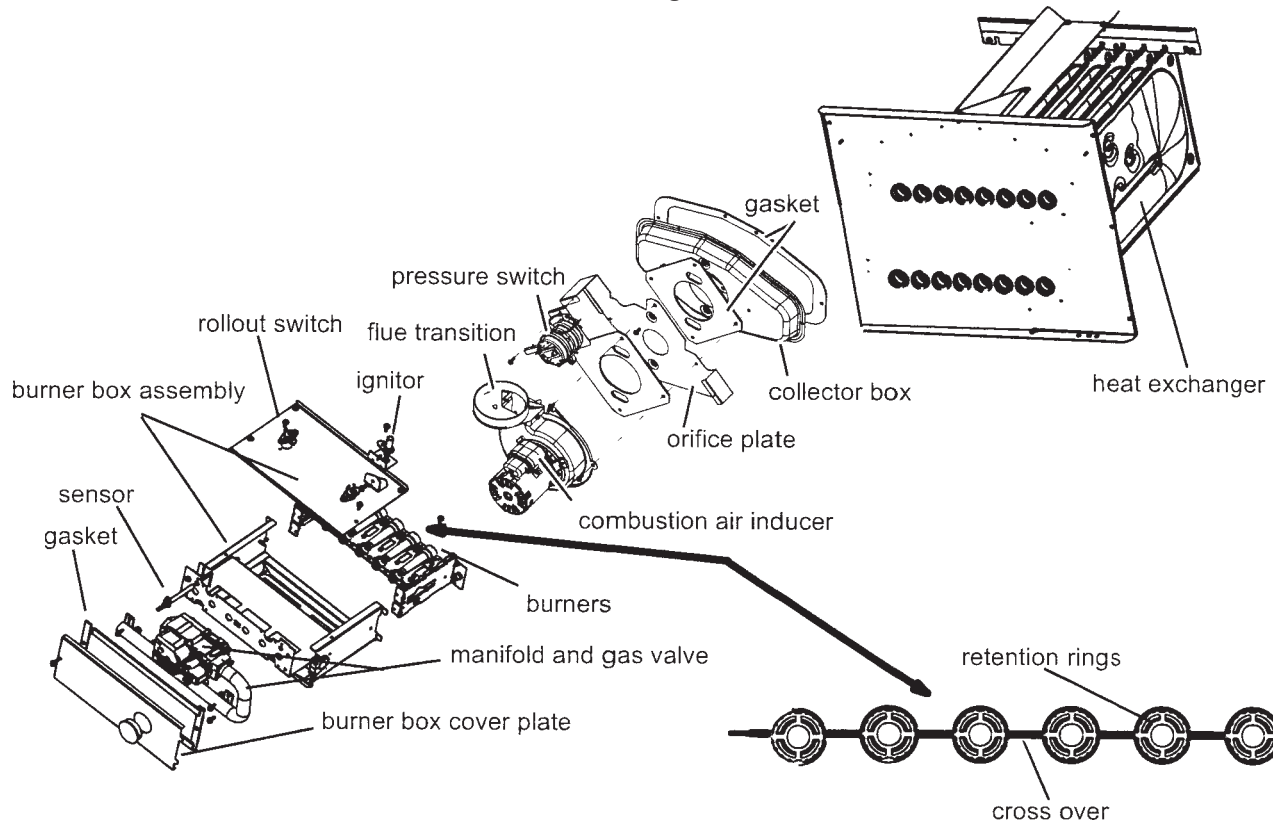

Figure 40
12. To clean burners, run a vacuum cleaner with a soft brush attachment over the face of burners. Visually inspect inside the burners and crossovers for any blockage caused by foreign matter. Remove any blockage. Figure 40 shows burner detail.